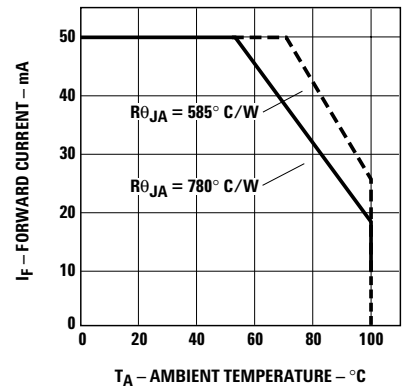

Figure 4. Maximum forward current vs. ambient temperature. Derating based on $T_{JMAX} = 130^{\circ}C$.
1. Derate linearly as shown in Figure 4.